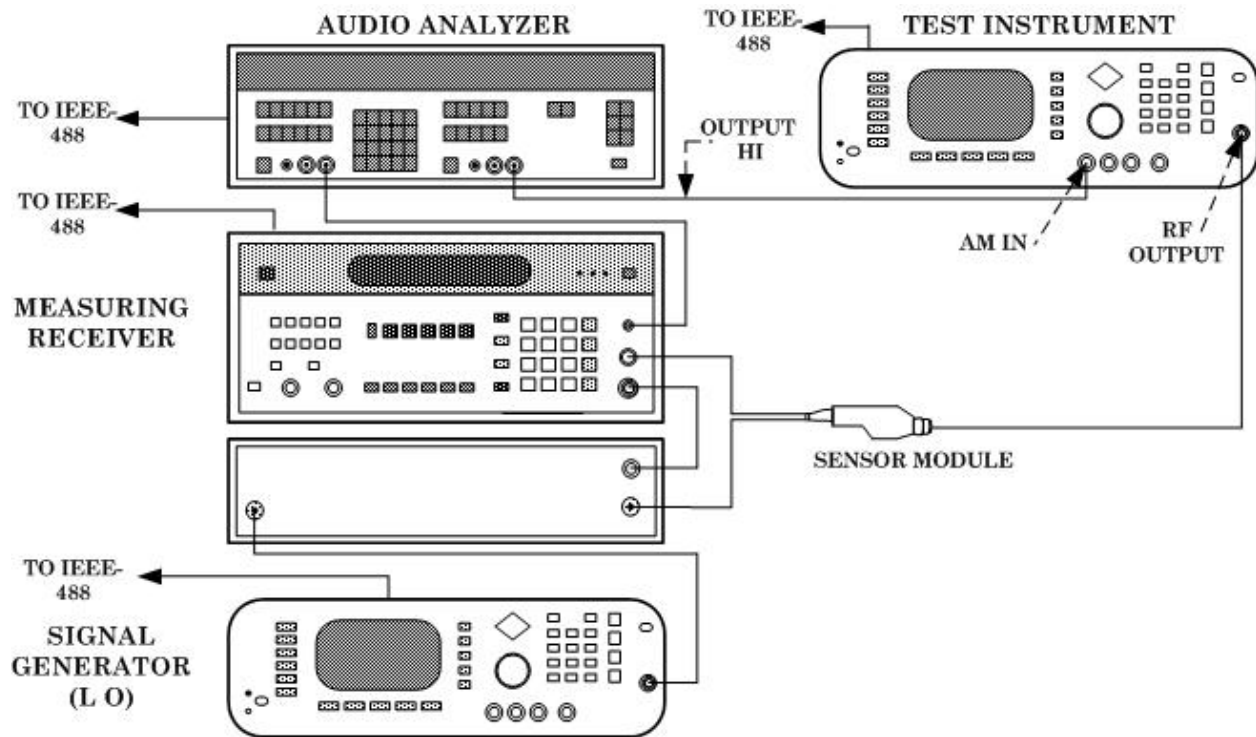

Figure 5. Amplitude modulation hookup.
- (1) Connect equipment as shown in figure 5.